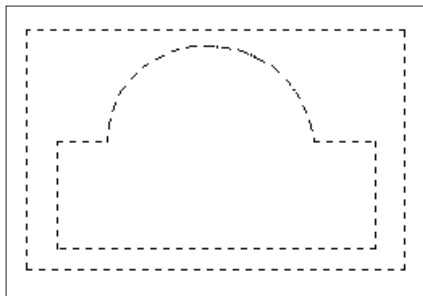

Figure 1
- 1 Create a drawing something like Figure 1.
- 2 Select the inner and outer objects using the Pick tool from the Drawing toolbar, (you may select more than one object, using any of the multi-select options), all the selected object will go dotted, see Figure 1.